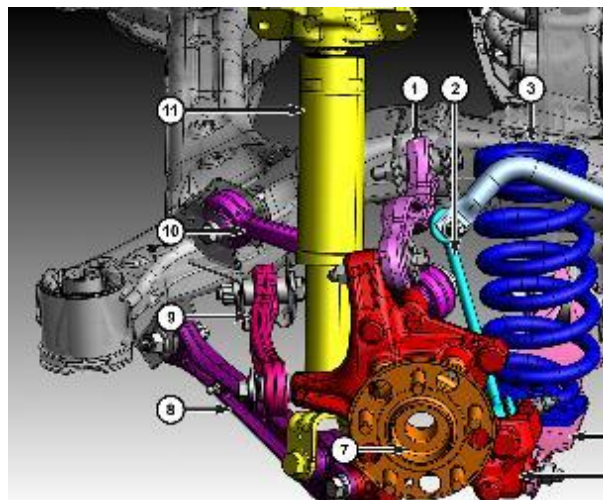

Figure 8 – Rear Suspension
- Place a jack under the compression link (8) at the shock absorber end (Figure 8).